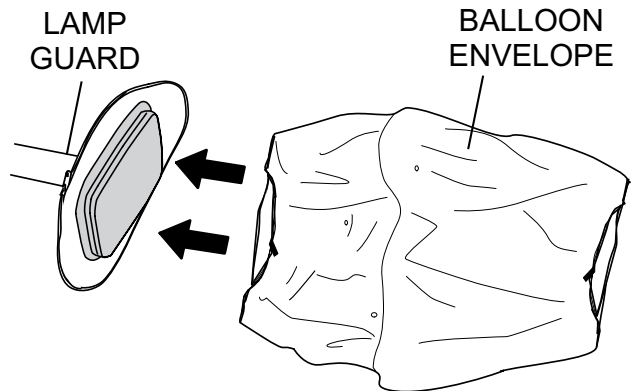

Figure 25. Installing New Balloon Envelope
3. Slide the new balloon (Figure 25) envelope over the top of the lamp guard assembly.